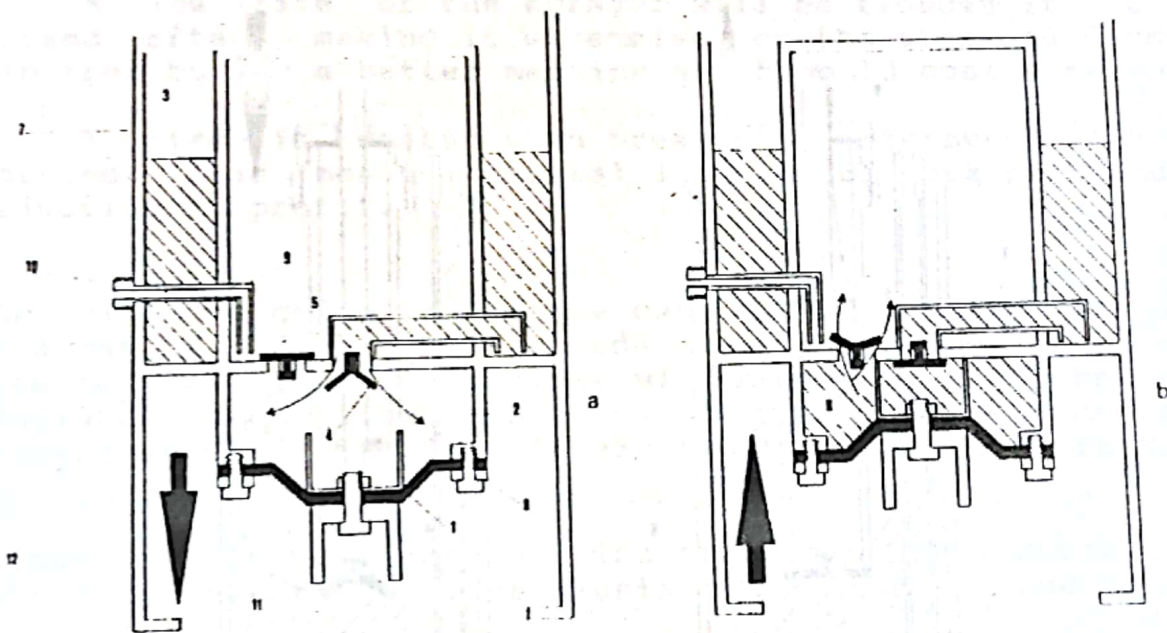

FIGURE 15 LEVER-OPERATED SPRAYER FITTED WITH A DIAPHRAGM PUMP.
The principle of operation is the same for both piston (Figure 14) and diaphragm pump sprayers (Figure 15).
* For machines fitted with a diaphragm pump, dismantle the pump and check the condition of the diaphragm. Replace if necessary. Clean out the pressure vessel and check all valves into and out of the diaphragm chamber (figure 15). Reassemble.